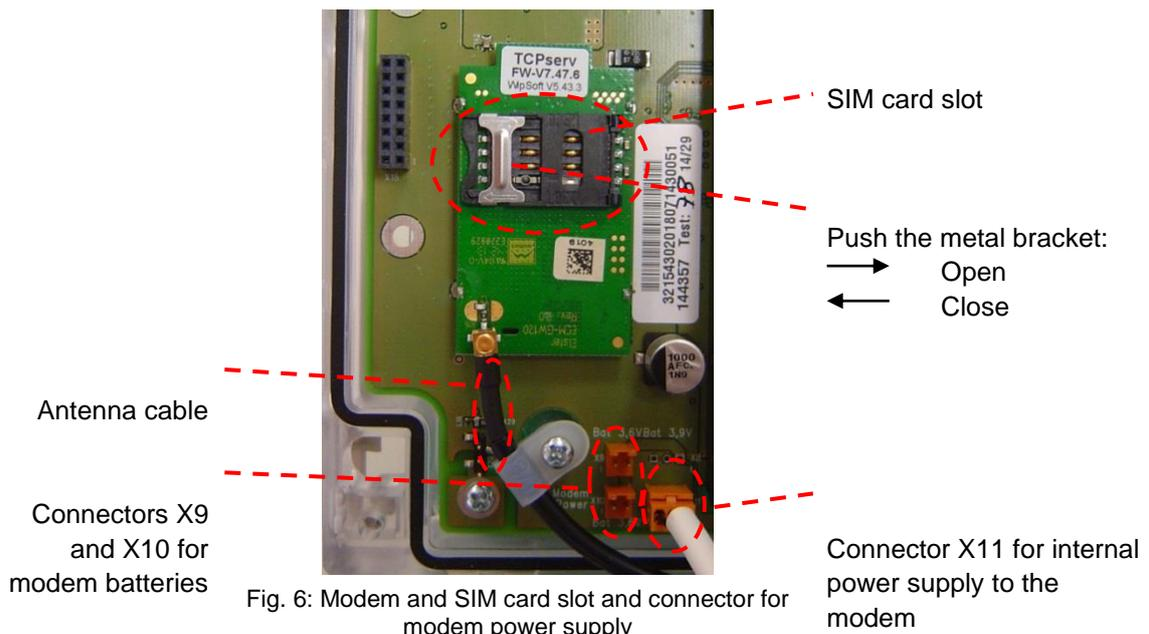

Fig. 6: Modem and SIM card slot and connector for modem power supply
- Disconnect the modem (X9, X10, X11, ⇒ Fig. 6) from the power supply to avoid damaging the modem and SIM card. This also applies to a DL230 with power supply unit which is disconnected from the mains in case a back-up battery supply is connected.
- Reconnect the plug(s) for the modem power supply (X9, X10, X11, ⇒ Fig. 6).